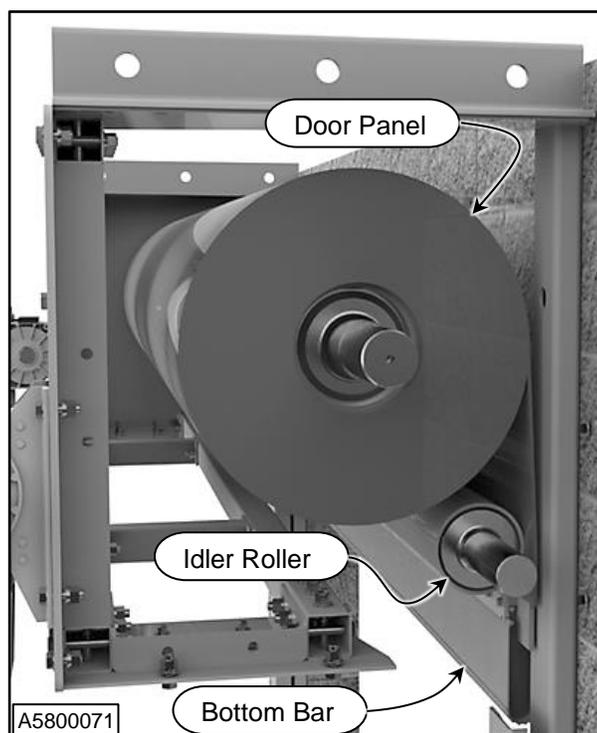

Figure 34
2. Gain access to the rear spreader by lifting the bottom bar with door panel and moving it to the other side of the idler roller. (See Figure 34)